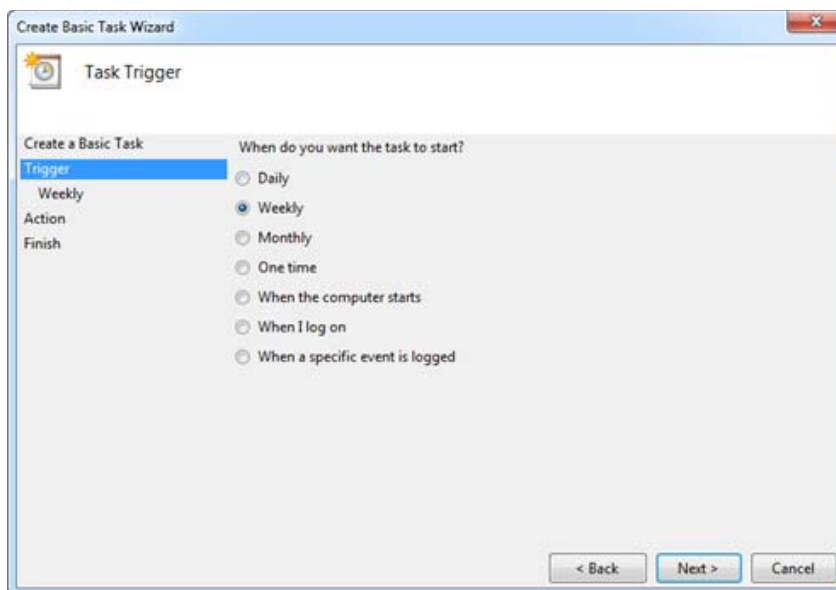

Figure 66. Task Trigger
- 5 Select one of the radio buttons to indicate the desired frequency of the backup and click the **Next** button. See Figure 66.